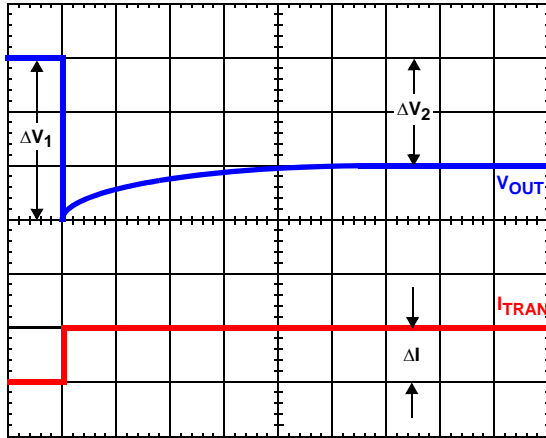

FIGURE 23. TIME CONSTANT MISMATCH BEHAVIOR
Due to errors in the inductance or DCR it may be necessary to adjust the value of  $R_1$  to match the time constants correctly. The effects of time constant mismatch can be seen in the form of droop overshoot or undershoot during the initial load transient spike, as shown in Figure 23. Follow the steps below to ensure the R-C and inductor L/DCR time constants are matched accurately.
2. Record  $\Delta V_1$  and  $\Delta V_2$  as shown in Figure 23.